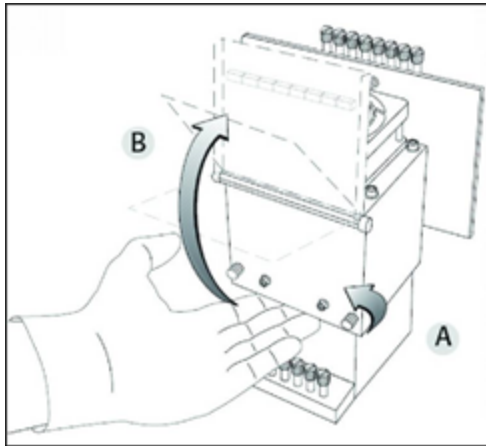

Figure 6-78 Opening the print-head compartment
- a. Open the print head compartment (see Figure 6-78 on page 6-60).